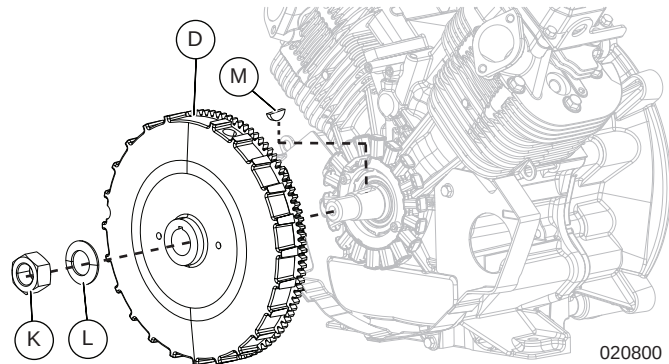

Figure 6-32. Remove Flywheel
5. Tighten puller bolts (G) until flywheel (D) loosens.
7. See Figure 6-32. Remove nut (K), washer (L), flywheel (D), and woodruff key (M) from crankshaft.